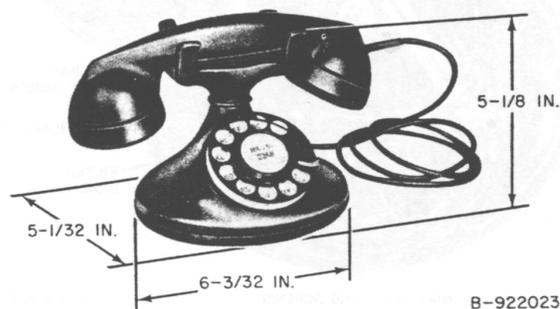
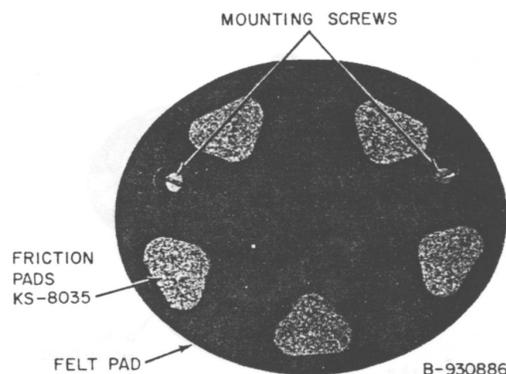

Fig. 1—Dial Desk-Type Set
Fig. 2—Oval Base D-Type Handset Mounting
2.02 Fig. 1 shows the dial desk-type hand telephone set with the D-type mounting (oval base). The earlier B-type mounting (round base) is not shown. Fig. 2 shows the oval base of the D-type mounting with felt and friction pads.
3.13 Friction pads should be attached to the bases of all dial-equipped hand telephone set mountings and all manual hand telephone set mountings equipped with spring cords (Fig. 2).